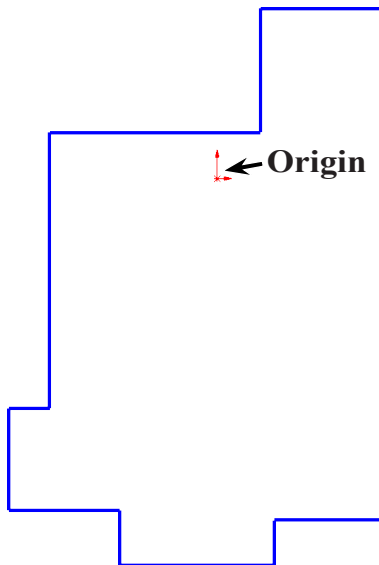

Fig. 2
Step 3. Click **Line**  (L) on the Sketch toolbar.
Step 4. Sketch lines, **Fig. 2**.